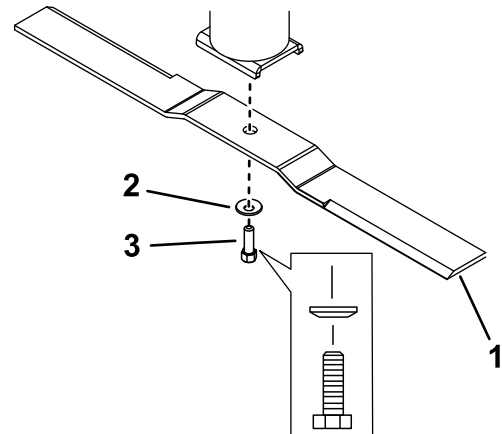

Figure 38
2. Remove the blade bolt, curved washer, and blade from the spindle cup assembly (Figure 38).
1. Install the blade onto the spindle shaft (Figure 38).
2. Install the curved washer (cupped side toward the blade) and blade bolt (Figure 38).